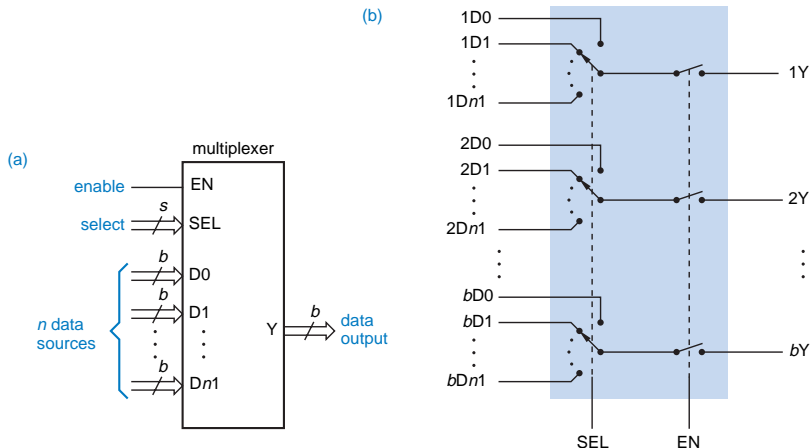

Figure 24: Multiplexer structure: (a) inputs and outputs; (b) functional equivalent.
- Fig. 24(a) shows inputs and outputs of an n -input, b -bit multiplexer